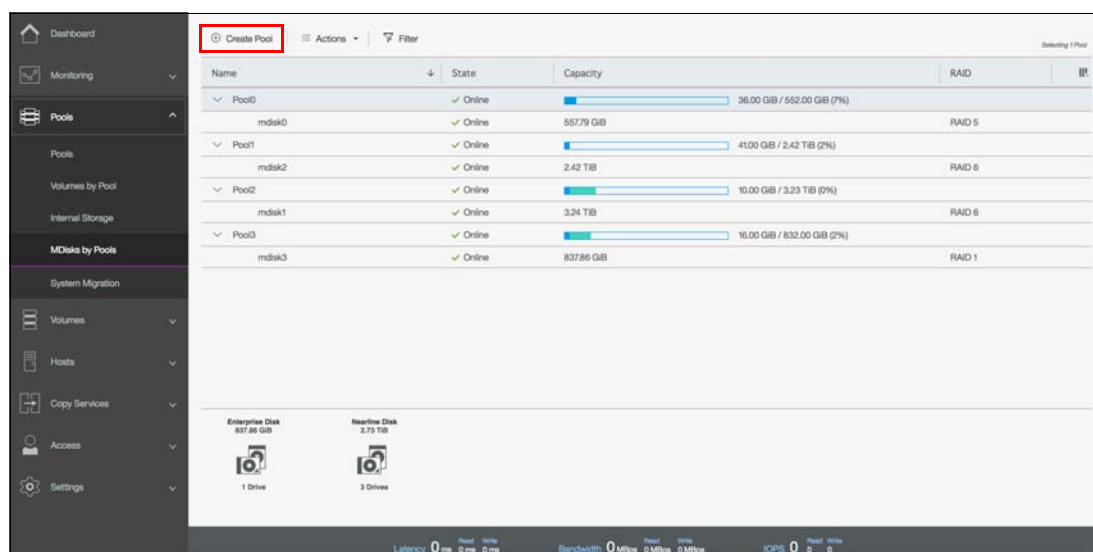

Figure 4-21 Create Pool button on MDisks by Pools panel
- Navigate to **Pools** → **MDisks by Pools** and click **Create Pool**, as shown in Figure 4-21.